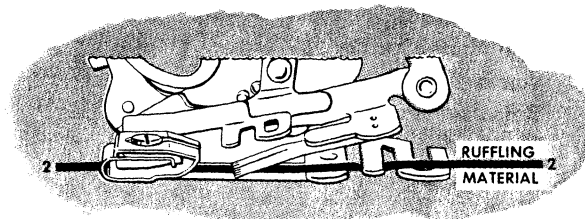

Fig. 73. Correct Position for Material
3. Insert material to be plaited between two blue blades and under the separator guide (Line 2, Fig. 73).